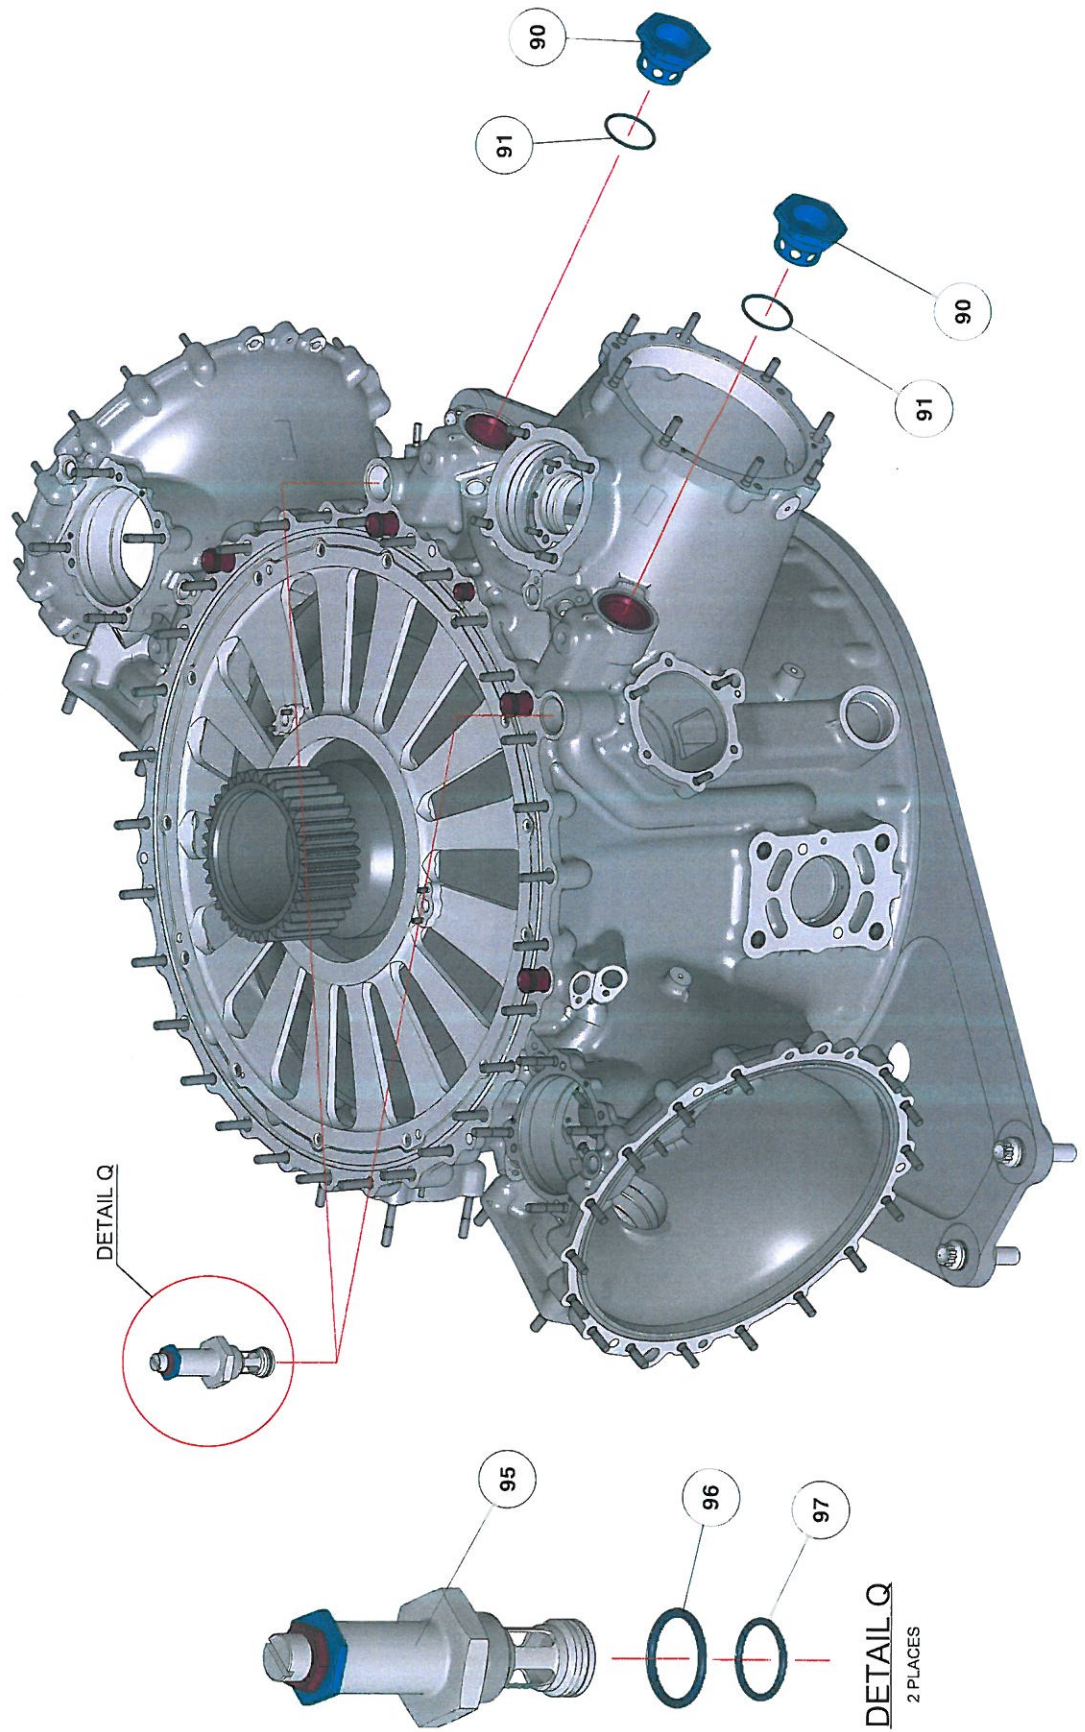

**Figure A1**
- 17.42 With reference to Figure A1, install the four oil jets (14A) and (16A), with related screws (10A), washers (11A) and O-rings (12A) and (13A).